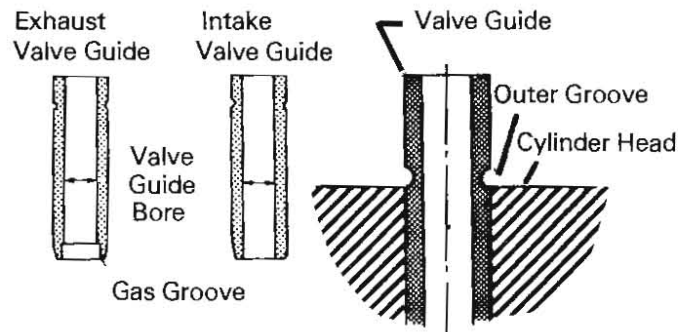

Fig. 3-29 Valve Guide Insert Position
3. Reinstall the new valve guides using a press. Press the guides in from the top of the cylinder head. Insert the guides until the outer groove reaches the cylinder head surface (Fig. 3-29).